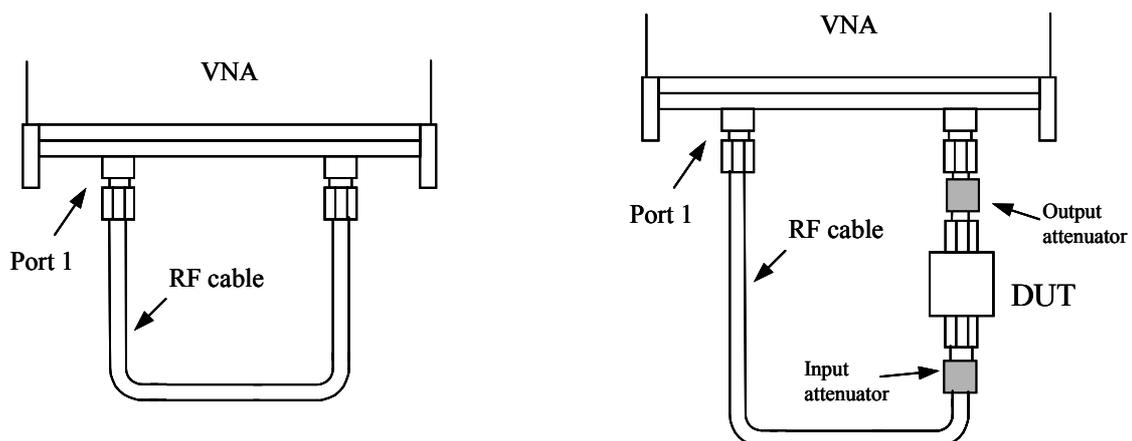

Figure 5.34 Basic connection guide for P_{1dB} measurements. Calibration connection is shown on the left
A similar plotting facility exists on the P_{1dB} and AM to PM utilities control windows as shown in Figs. 5.34 and 5.35.
- Connect Port 1 to Port 2 as shown on the left-hand side of Fig. 5.34
The basic connection arrangement is shown on the right hand side of Fig. 5.34. Note that the input and output attenuators should be carefully selected to ensure that the DUT compresses whilst preventing the power at Port 2 of the instrument exceeding the nominal limit of +6 dBm. It is recommended that the following guidelines are used to estimate the value of the input and output attenuators needed.
After the attenuator values have been established and the DUT is in place (and powered up as appropriate), enter the values into the P_{1dB} control window (Fig. 5.34).